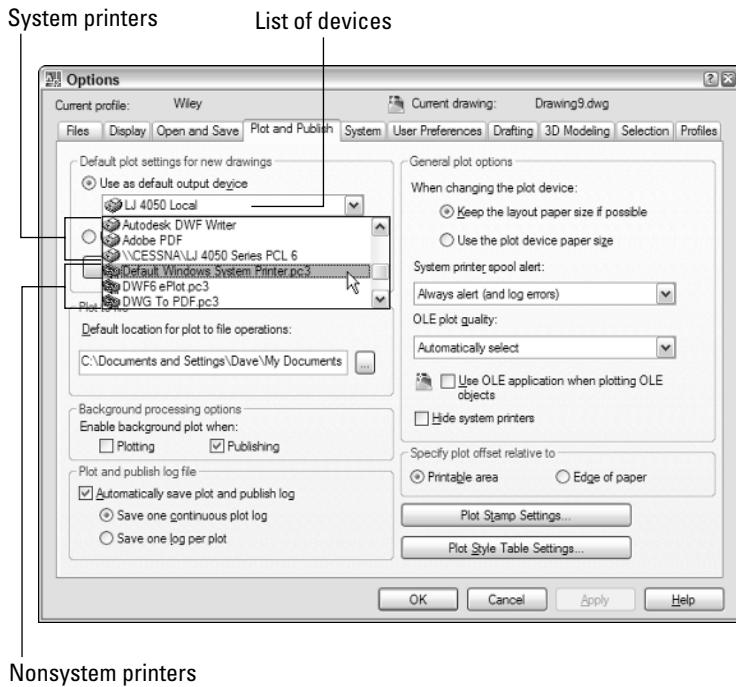

Figure 13-1:
- 3. Click the drop-down arrow to view the list just below the Use As Default Output Device option, as shown in Figure 13-1.**